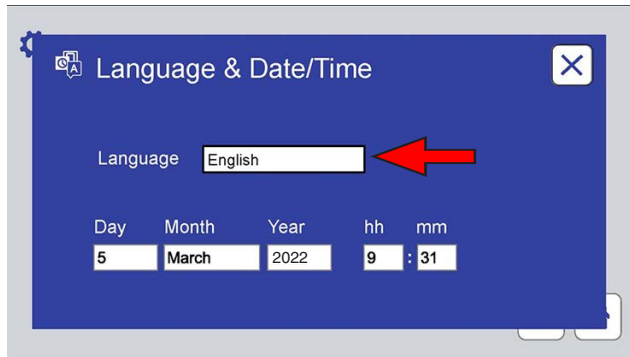

Figure 10.7i: This screen displays controls to select one of seventeen control interface languages.
- o Language (Figure 10.7i through Figure 10.7l). Controls can be displayed in any of seventeen (17) different languages: